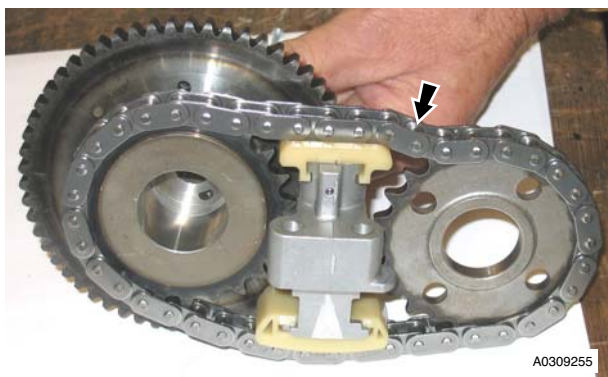

Figure 4
- Remove the intake sprocket housing assembly from the secondary timing chain (refer to Figure 4).